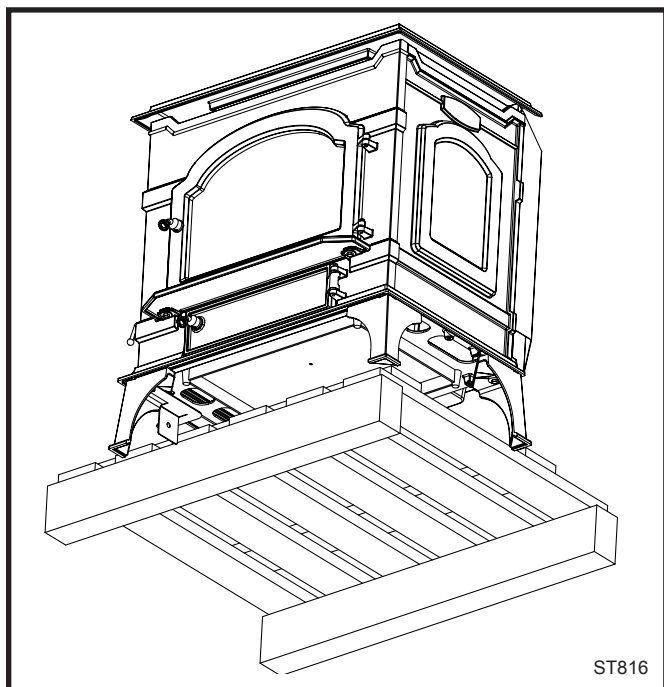

Fig. 26 Reposition stove so one rear leg can be attached.
4. In the hardware bag, locate the four legs, the door handle insert holder, (on this leg only, the door handle insert holder is used along with a washer), (4) 1/4-20 x 1" leg bolts and four (4) washers.
7. Reposition the stove so the first rear leg can be attached. Attach the leg using the procedure described in Step 6. (Fig. 26)
9. Remove the (4) 1/4-20 x 3/8" hex head bolts from the mounting bosses and attach the bottom heat shield using the same bolts.